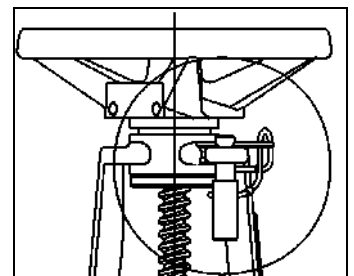

Figure 3—Unlocked Position
4. Place the pin into the hole in the lockout to secure it to the yoke. See Figure 3.